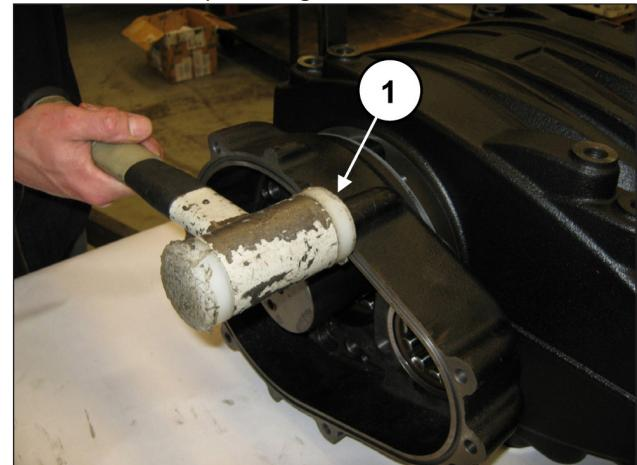

Fig. 65
Assemble the reduction gear box (and relative seal) using an extractor hammer (pos. ①, Fig. 65).